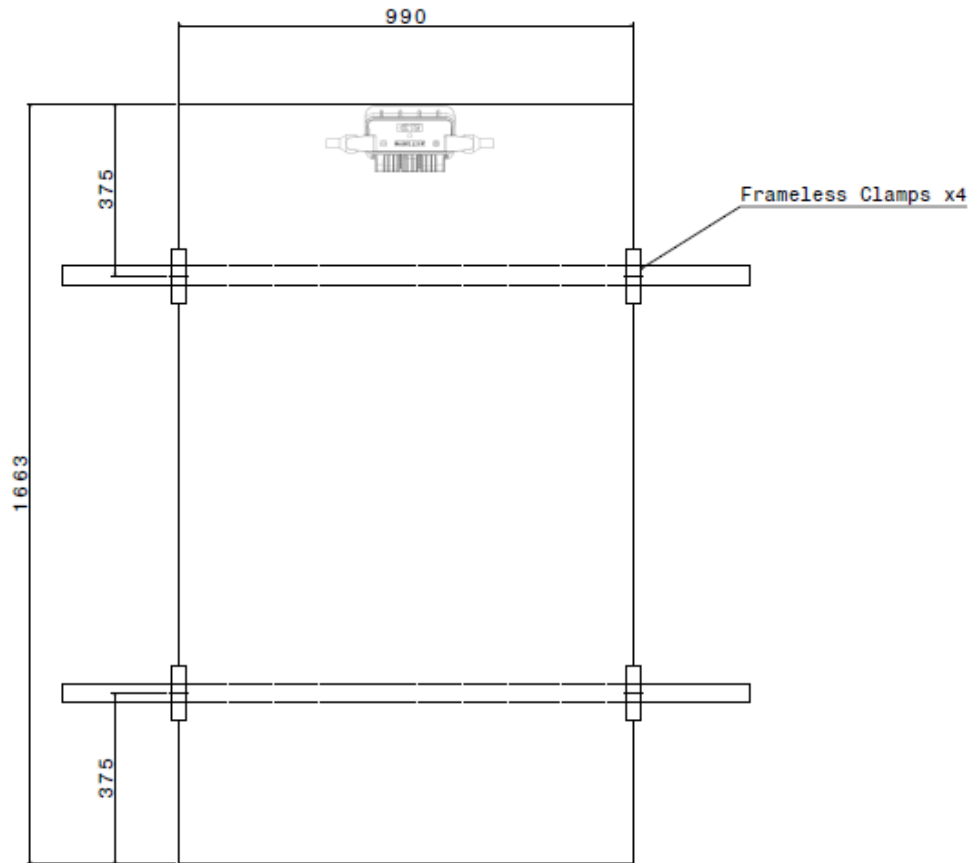

Figure 1 (Perpendicular Orientation)
- For flush-mount residential applications, the modules can be mounted with rails running across the modules as shown in Figure 1. Clamp length should be equal to or greater than 80mm.